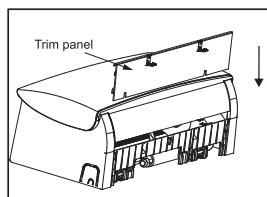

Fig. 20
8) Install the trim panel onto the indoor unit as shown in Fig. 20, then install the screw, and close the screw cover.